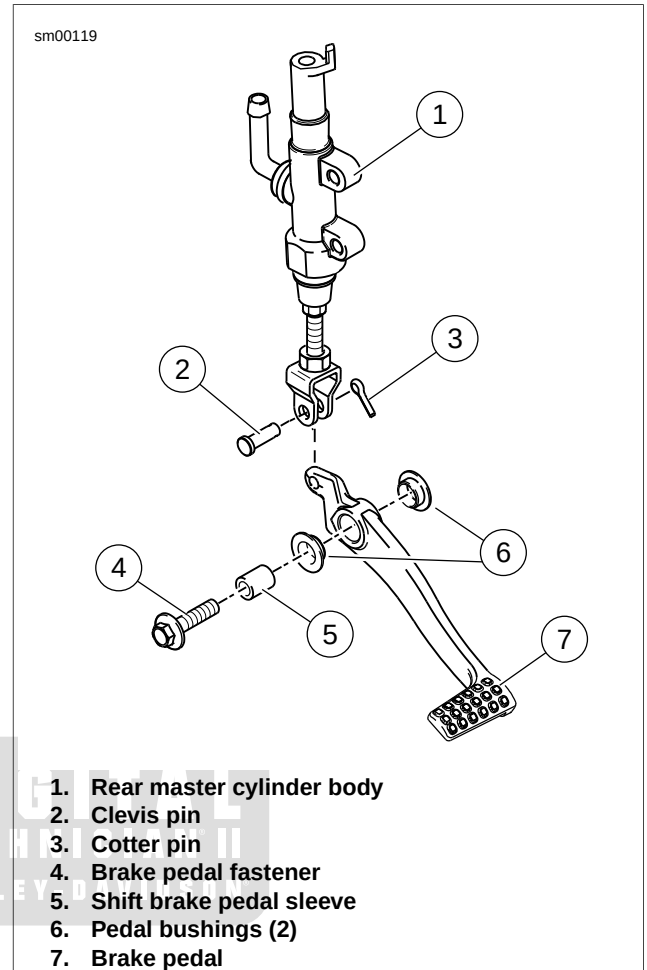

Figure 2-45. Brake Pedal Assembly
1. See Figure 2-45. Remove cotter pin (3) and discard.
2. Remove clevis pin (2).
3. Remove pedal fastener (4).
4. Remove shift brake pedal sleeve (5).
5. Remove pedal bushings (6).
6. Remove brake pedal (7).
1. See Figure 2-45. Install pedal bushings (6).
2. Install shift brake pedal sleeve (5).
3. Install brake pedal (7) using LOCTITE 271 (Red) and tighten fastener (4) to 22-24 ft-lbs (30-33 Nm).
4. Install clevis pin (2).
5. Install **new** cotter pin (3).